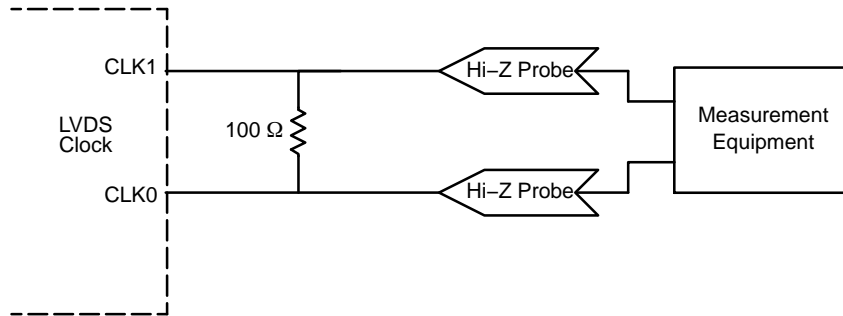

Figure 9. LVDS Parameter Measurement
11. LVDS outputs require 100 Ω receiver termination resistor between differential pair. See Figure 9.